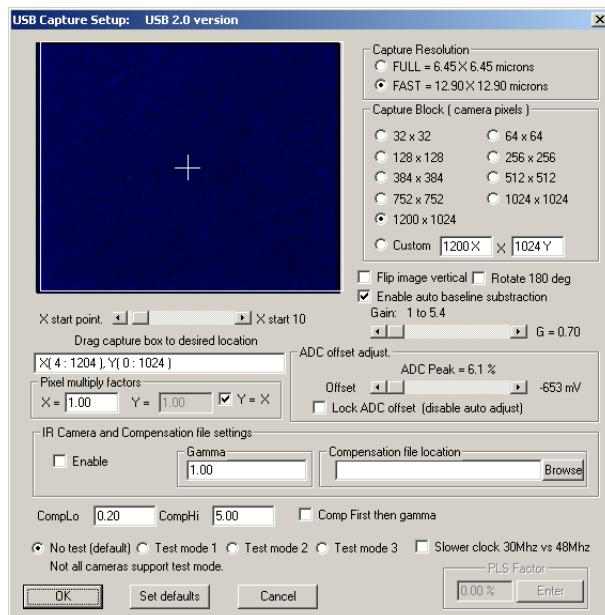

Figure 6.8 WinCam settings (3)
- Call up Setup > "Capture Setup Dialog" and make the settings according to Figure 6.8.